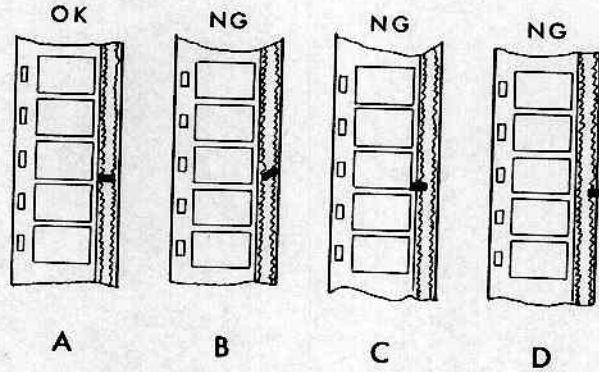

FIG. 26
Unable to play back high frequency range	Improper position of the (3) as shown in Fig. 26(B). Stain on (3).
Played back the sound of poor quality	The (3) is out of position as shown in Fig. 26(C)(D).
- c. Run the projector with film and play back the signal with maximum volume. To obtain the maximum output, adjust the sound lens position by turning or sliding the lens back or forth after loosening the (4) and by tightening or loosening the (5)(6). Refer to Fig. 26(A).